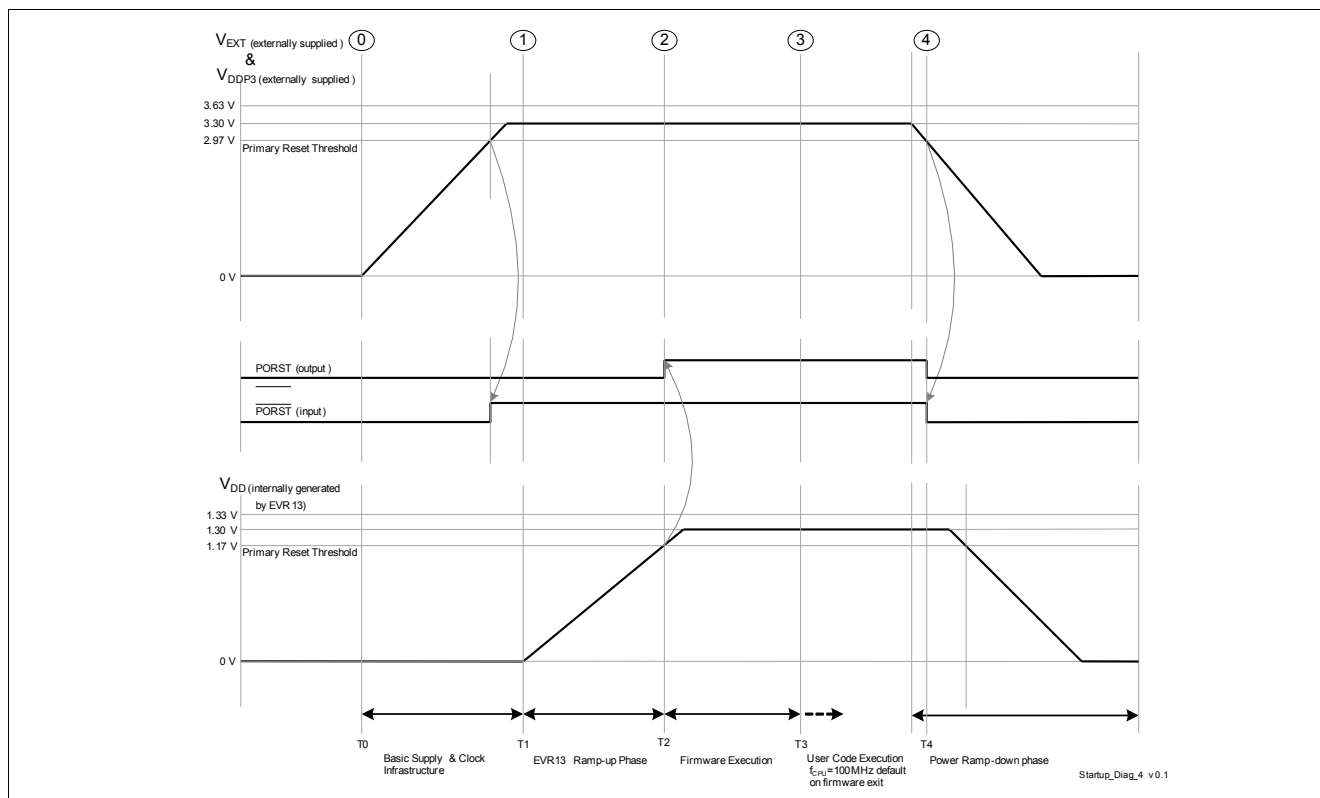

Figure 3-7 Single Supply Mode - 3.3 V single supply
- The power sequence as shown in Figure 3-7 is enumerated below